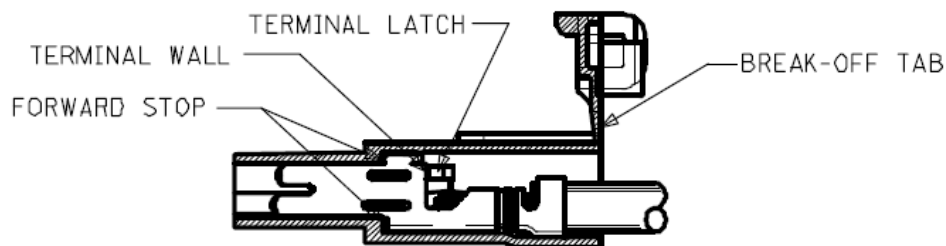

FIGURE 2-33
- e. Refer to **Figure 2-33**. Insert the crimped wire into the receptacle housing until the terminal's latch is engaged. Remove the tab that is attached to the top of the housing.